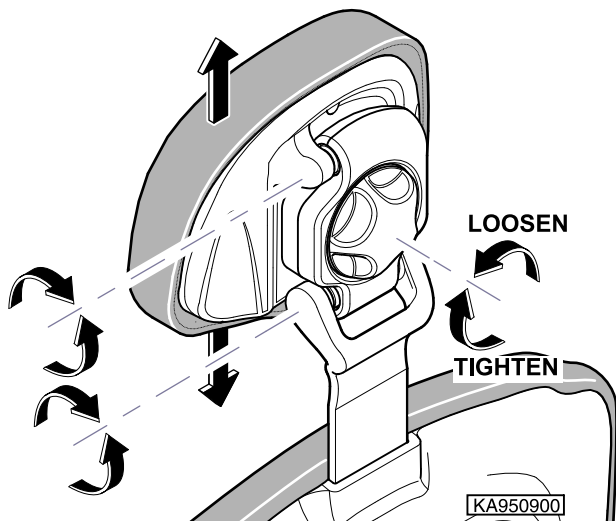

Figure 2-2. Headrest
- (7) Remove weights from chair.
- (8) Run Back Up function all the way up and Base Down function all the way down.
- (9) Slide headrest in and out stopping at different positions. Push gently against headrest at each position (Refer to Figure 2-2).